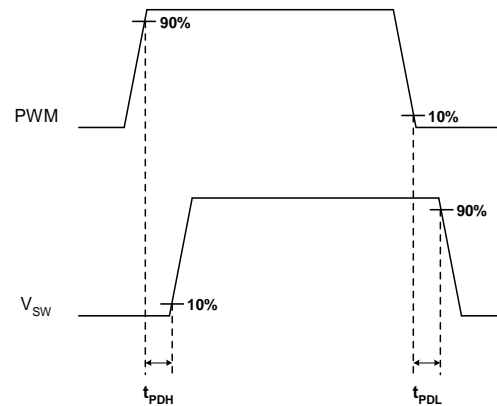

Figure 10 Timing Diagram
4. $TPDH$ and $TPDL$ are not associated with rise and fall times. Does not affect Power Loss (see Figure 10).